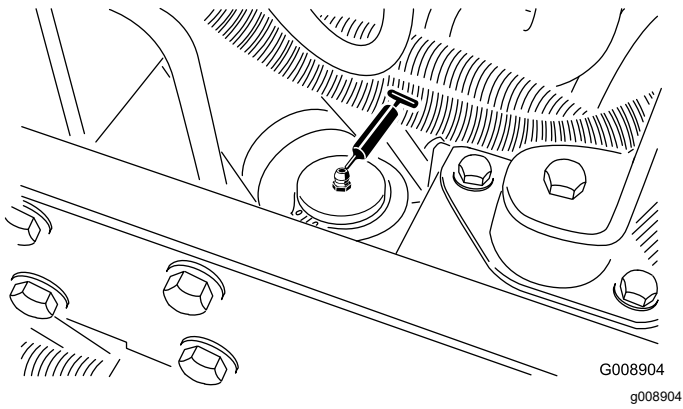

**Figure 37**
- Belt-tension pivot (Figure 37)